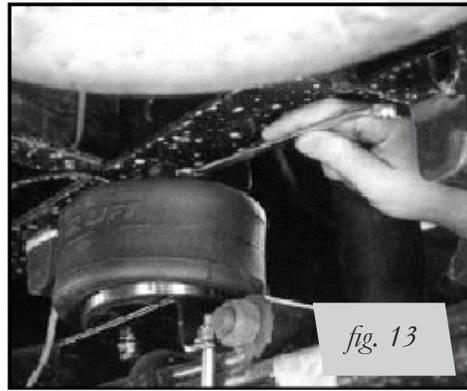

fig. 13
3. Tighten the rearward bolt in the upper bracket to the air spring first. Now move the upper bracket away from the frame and tighten the front bolt (see fig. 13 on next page).